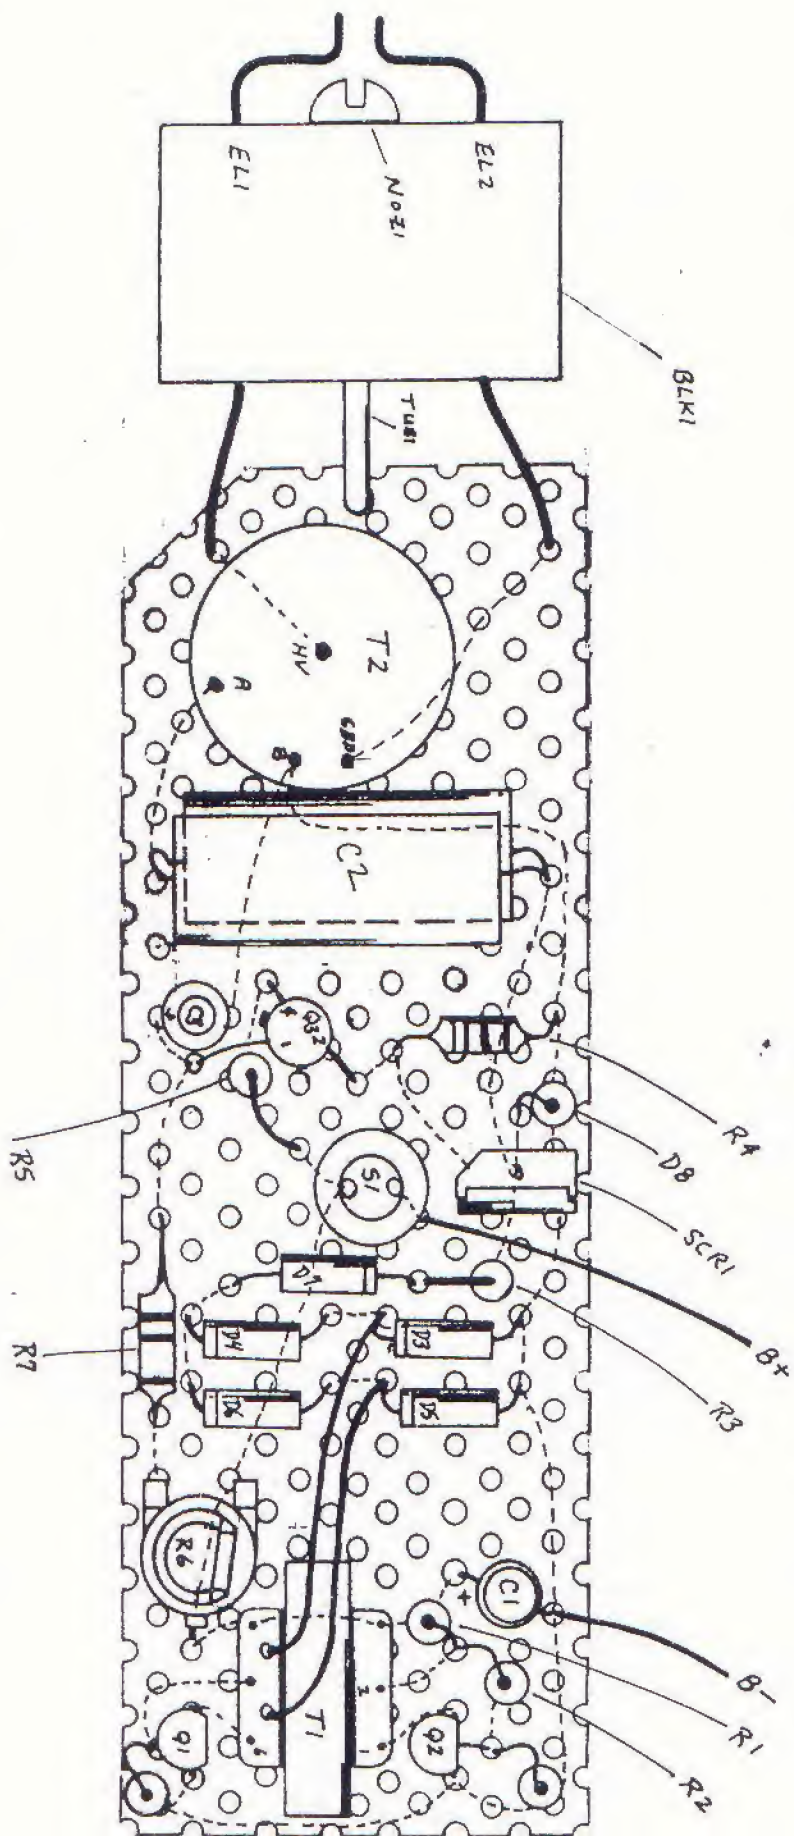

FIG 2 - POWER BOARD PICTORIAL LAYOUT
ASSEMBLY OF POWER BOARD REF SCHEMATIC FIG 1 AND PICTORIAL LAYOUT FIG 2
4. Insert and wire components as shown. Avoid wire bridges and use component leads wherever possible. Follow layout FIG 2. Observe polarity of diodes, semi-conductors and capacitors. Always leave at least 1/16 to 1/8 leads on semi-conductor so they do not sit directly on board. NOTE: THAT THIS POWERBOARD ASSEMBLY IS USED IN SEVERAL OF OUR DEVICES WITH MINOR REVISIONS SUCH AS S1 AND R6 BEING EXTERNALLY MOUNTED VIA INTERCONNECTING LEADS.